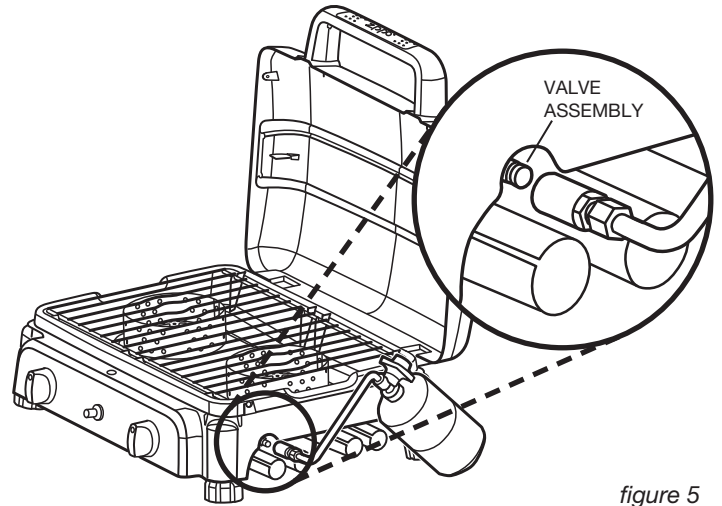
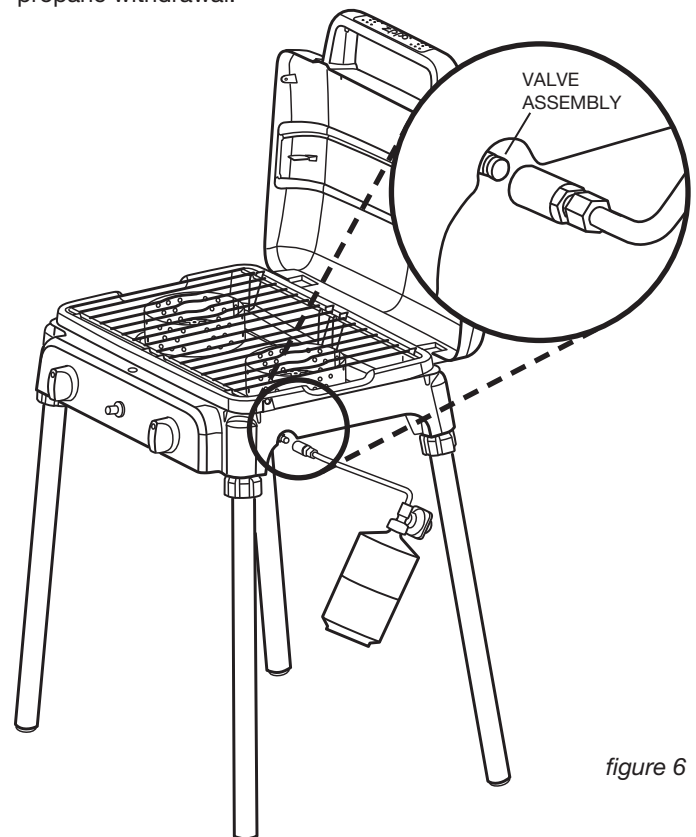

figure 5
figure 6
3. With the propane cylinder assembled on the regulator and the quick connect coupler pulled back, push the quick-connect coupler onto the valve assembly, until it clicks as shown in figure 5.
4. Position the propane cylinder, as shown in the illustration for table top mode in figure 5 and for free standing mode (with optional legs) in figure 6, to ensure proper propane withdrawal.